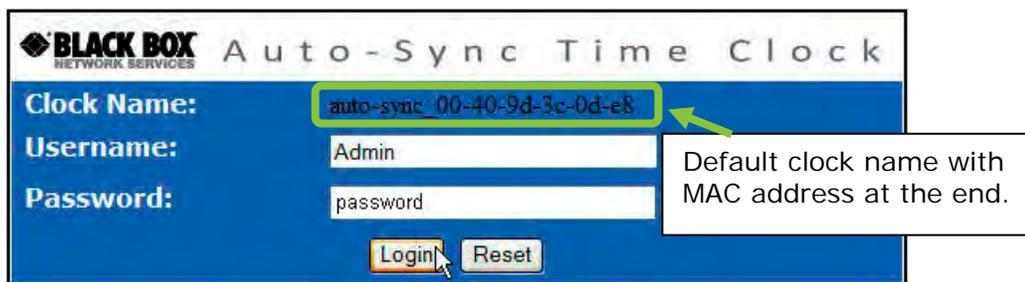

Figure 5-6. Auto-Sync Time Clock Login.
- When the clock(s) appears in the list, follow the tool tip and double-click on the desired Auto-Sync Time Clock to launch your browser and open to the clock’s web login (see *Figure 5-6*).